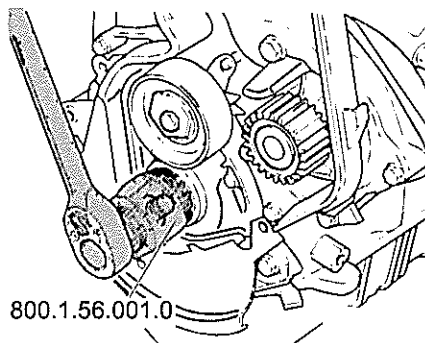

Fig 4 Crankshaft oil seal – belt pulley end (removal)
- 20.3 Screw inner section of oil seal puller 800.1.56.001.1 two turns (approx 3 mm) from outer section and lock in place with knurled screw (see Fig 4).